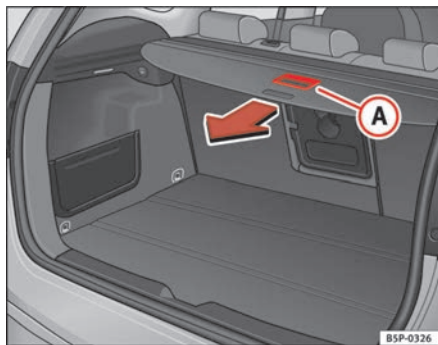

Fig. 123 Using the luggage compartment cover
- Use the handle **A** to pull the cover back until you hear a “click” ⇒ fig. 123.